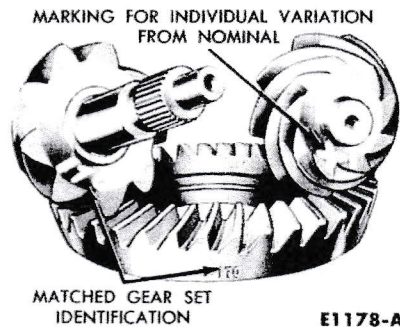

FIG. 44—Pinion and Ring Gear Markings
2. Note the shim adjustment number on both the old pinion and the new pinion. Each pinion gear is marked with an adjustment number such as the +1 marking in Fig. 44.
A new ring gear and pinion should always be installed in an axle as a matched set (never separately). **Be sure that the same matching number appears on both the drive pinion and the ring gear.** Note the number 170 in Fig. 44.